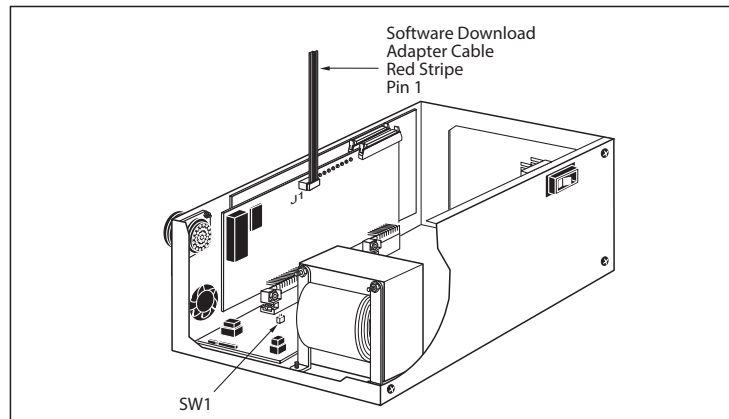

Figure 7-2-1 Powerpack BDM (Debugger) cable assembly orientation
4. Connect the software download adapter cable to the Main Control board as shown in Figure 7-2-1.